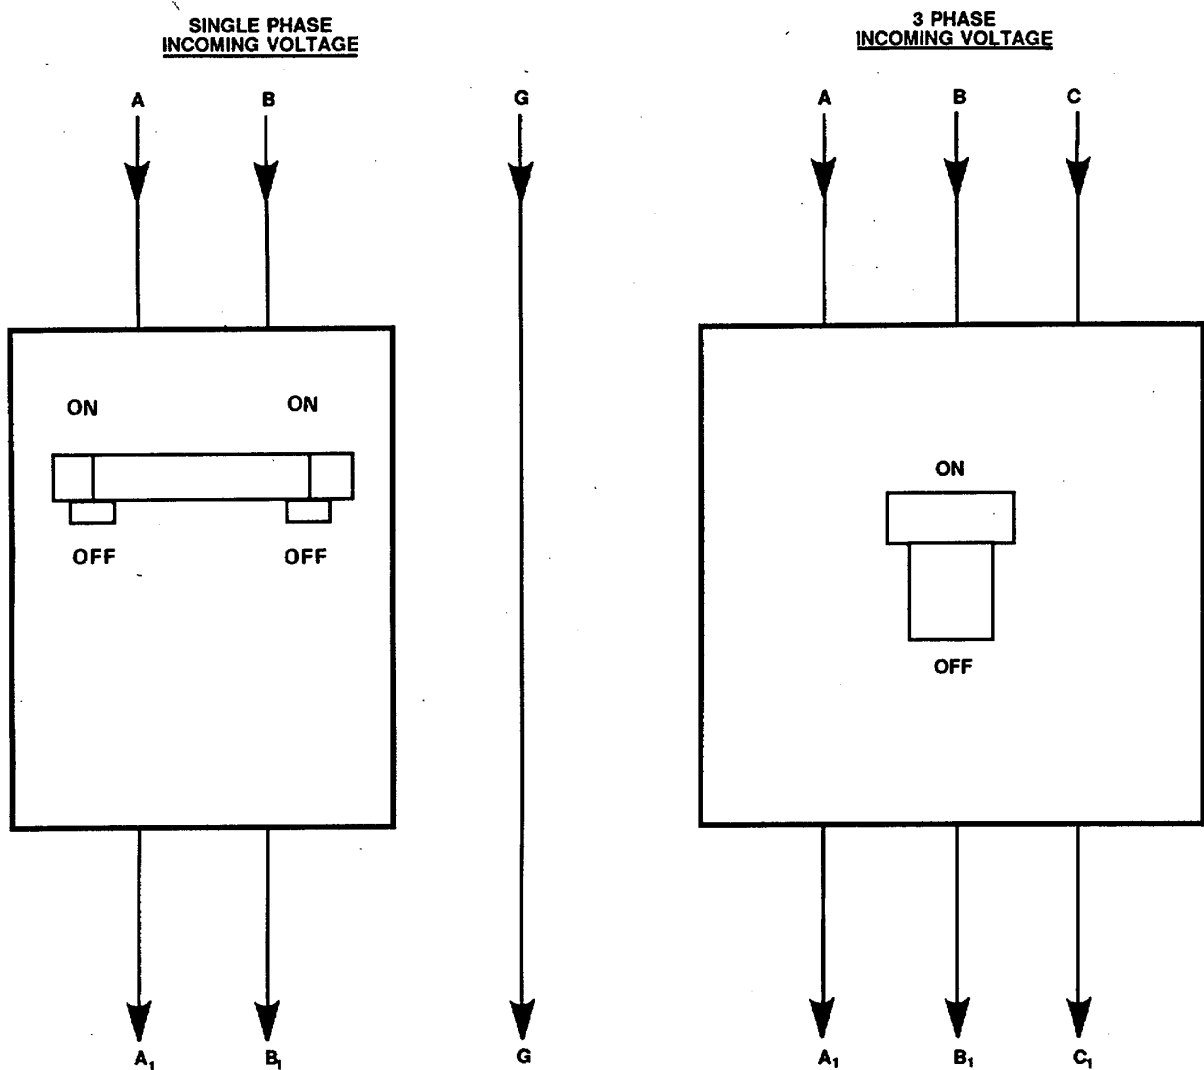

Figure 2-5. Checking Circuit Breakers.
- 1 Push manual switch(s) to OFF then ON to be sure breaker is closed. Start all equipment being fed by breaker. Refer to, FIGURE 2-5.